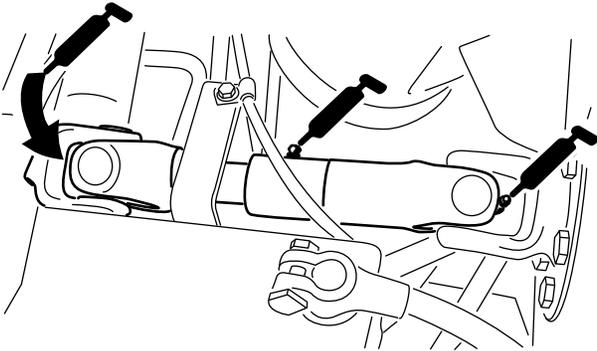

Figure 38
- Pump drive shaft U-joint (3) (Figure 38)